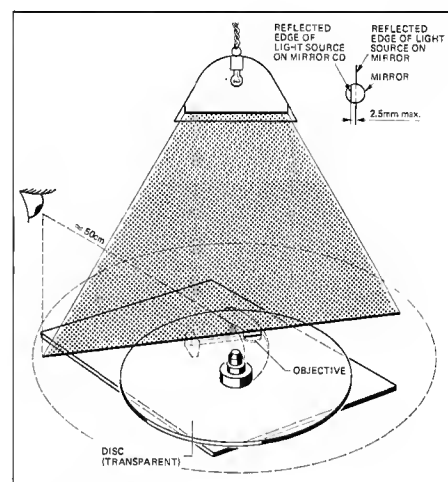

Fig. 4.18
- Put the laser pickup arm into the center position and turn the player mechanism in such a way that the arm is parallel to the light source (see Fig. 4.18).
- When viewing the two light source reflections in the glass CD and in the mirror on the pickup (as illustrated in Fig. 4.18), the lateral offset should not exceed 2.5 mm.